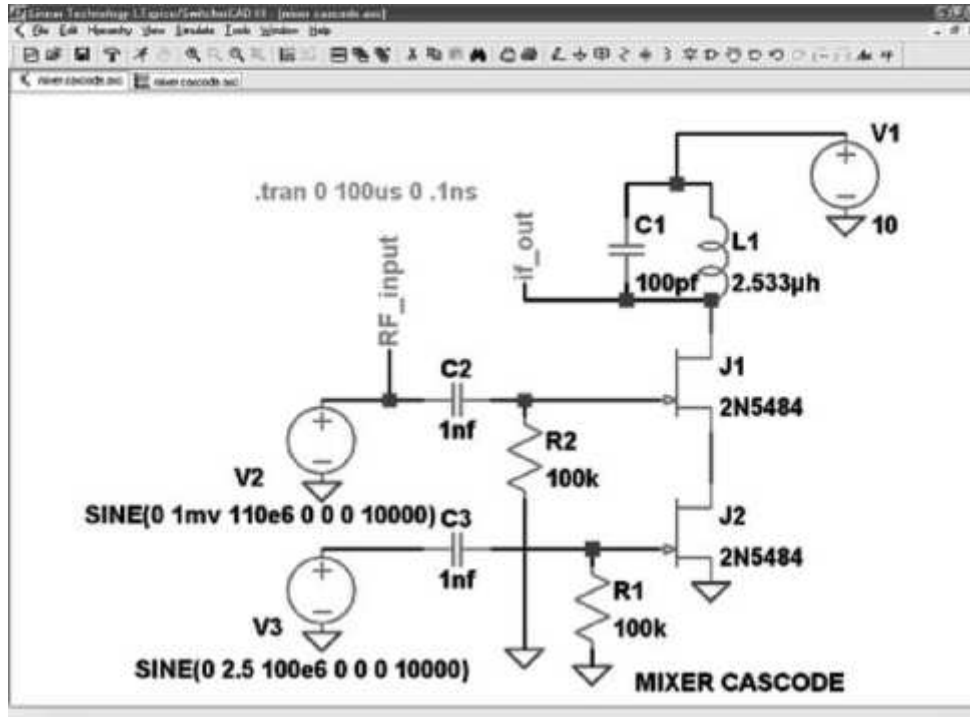
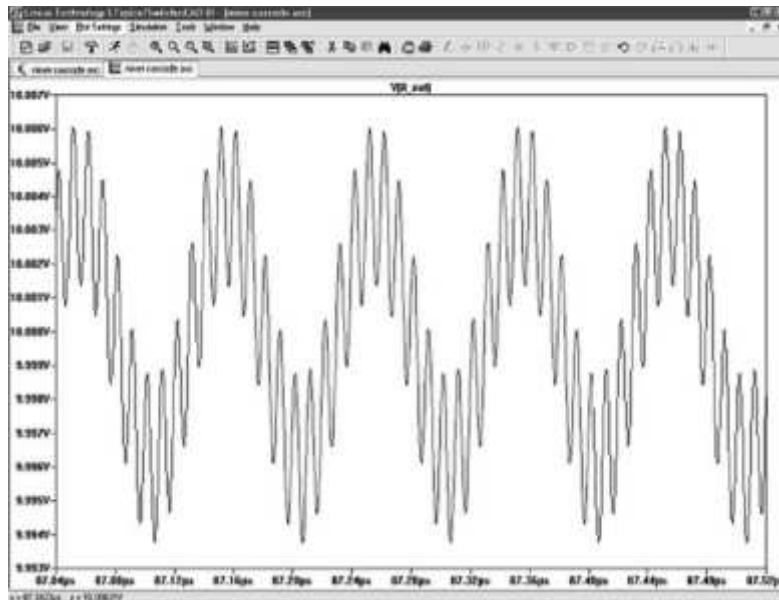

FIGURE 1.
FIGURE 2.
Your request for a two transistor circuit brought a cascode circuit to mind, so I threw together the circuit of **Figure 1** in the LTspice simulator. The RF input to J1 is 2 mV peak-to-peak at 100 MHz; the local oscillator (LO) input to J2 is five volts p/p at 110 MHz. The output circuit is tuned to the difference frequency of 10 MHz. **Figure 2** is the output signal. The 10 MHz is about 70 mV p/p, a gain of over 30 dB. The LO output is significant, more filtering is needed.